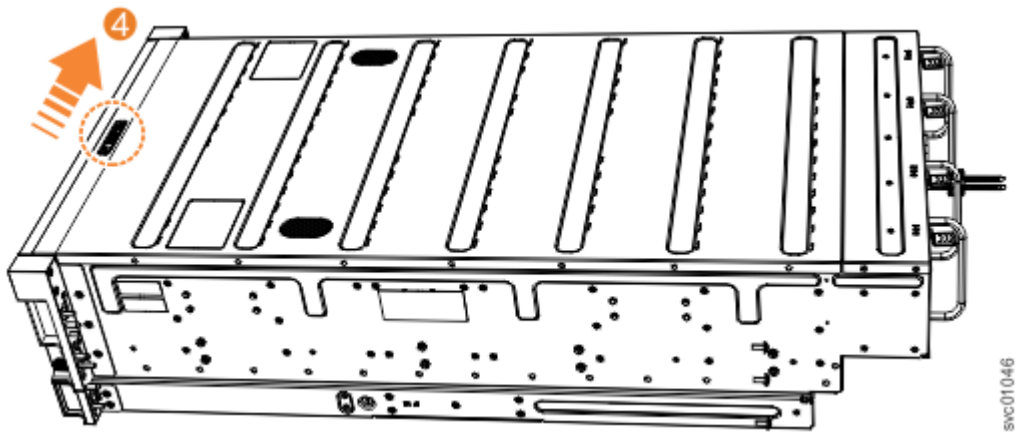

Figure 48. Locking the top cover
5. Lock the cover into position by sliding the release lever **4**, as shown in Figure 48 on page 63